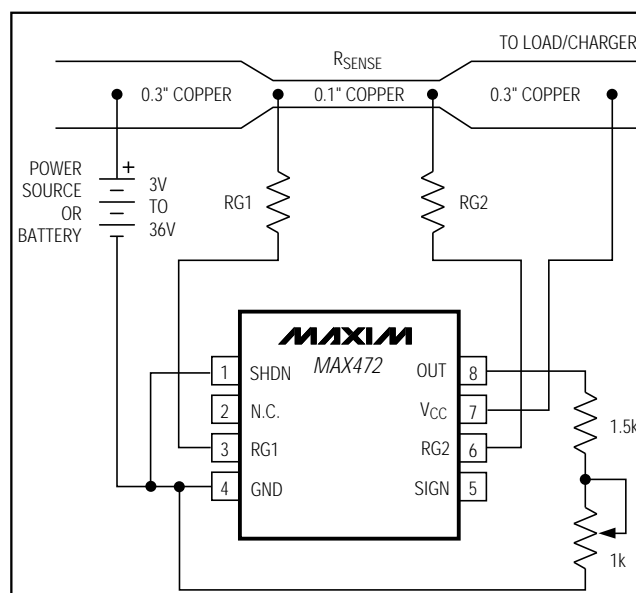

Figure 6. MAX472 Connections Showing Use of PC Board Trace
- Cost:** If the cost of RSENSE becomes an issue, you may want to use an alternative solution, as shown in Figure 6. This solution uses the PC board traces to create a sense resistor. Because of the inaccuracies of the copper "resistor," you will need to adjust the full-scale current value with a potentiometer. Also, the resistance temperature coefficient of copper is fairly high (approximately 0.4%/°C), so systems that experience a wide temperature variance should take this into account.
In Figure 6, assume the load current to be measured is 10A and that you have determined a 0.3 inch wide, 2 ounce copper to be appropriate. The resistivity of 0.1 inch wide, 2 ounce copper is  $30\text{m}\Omega/\text{ft}$  (see Note 4). For 10A you may want  $R_{\text{SENSE}} = 5\text{m}\Omega$  for a 50mV drop at full scale. This resistor will require about 2 inches of 0.1 inch wide copper trace.